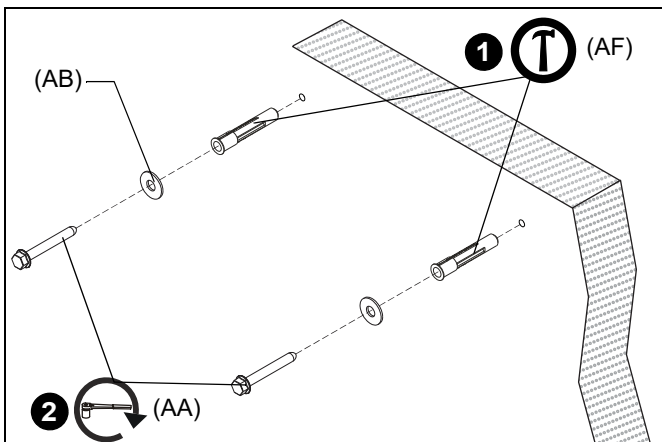

Figure 19
1. Install one UX10X60R anchor (AF) into each pilot hole using a hammer, making sure that the anchor is flush with the wall. (See Figure 19)
2. Use one 5/16" x 2-1/2" hex flange head lag bolt (AA) and one 5/16" washer (AB) through product into each anchor in wall. (See Figure 19)